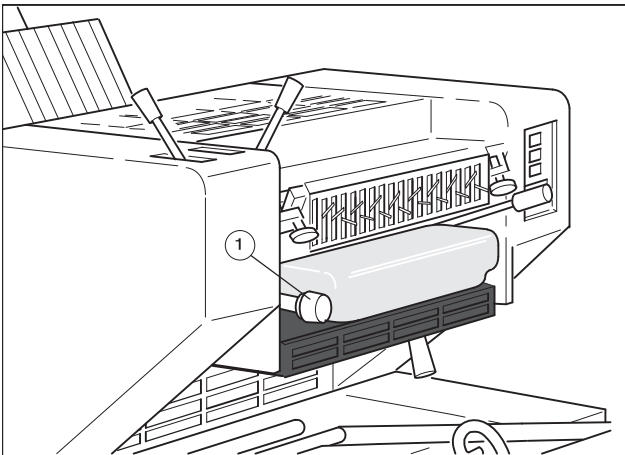

Fig. 17 Dampening solution metering knob, PU 2
1. To move the metering roller from the water pan roller, press in the control knob (Fig. 17/1) and turn counterclockwise up to stop.